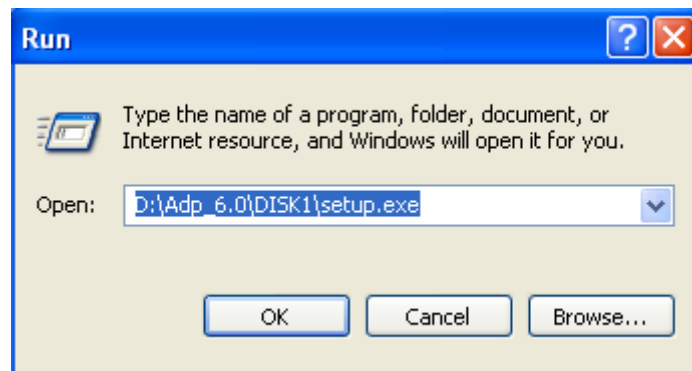

Figure 1. Run the ADP installation program
2. Click [Start] and select [Run]. The [Run] dialog box should be appeared on the screen and select [Browse] to locate the install program “Setup.exe”. See Figure 1.